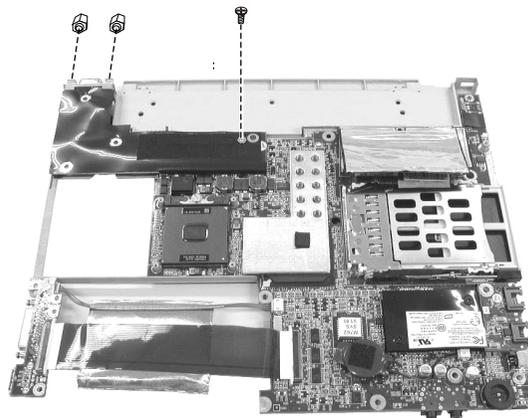

Figure 2-25 Remove the DC/DC board
4. Lift the DC/DC board. (See Figure 2-25)